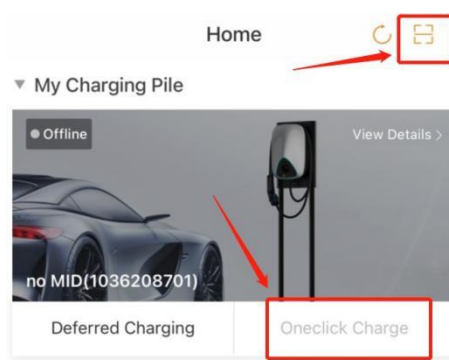

Figure 28: Mobile client interface
1. Open "Star Charge" or third-party app, click the QR code scan function and scan the QR code on the front of the Aurora, after successfully binded, click "Oneclick Charge" to start charging, as shown in Figure 28.